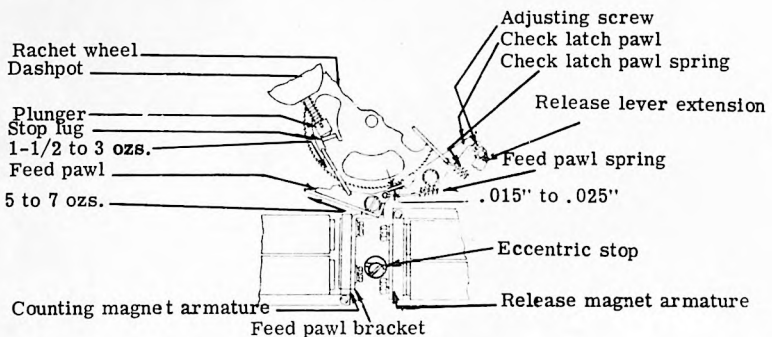

Figure 11
38. RATCHET RETURN SPRING ADJUSTMENT (Figure 11)
39. RATCHET SPRING TENSION (Figure 11)
(Figure 11)
45. CHECK LATCH PAWL SPRING TENSION (Figure 11)